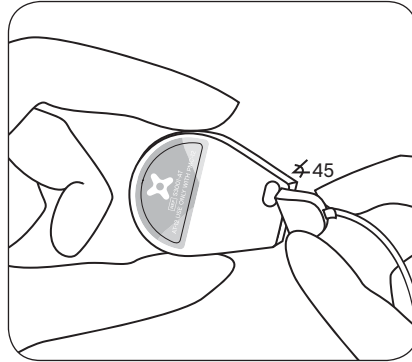

figure 8A: Insert power controller wire at 45° angle
- A. Insert the *power controller wire* into the matching cavity at the base of the applicator at a 45 degree angle (Figure 8A).